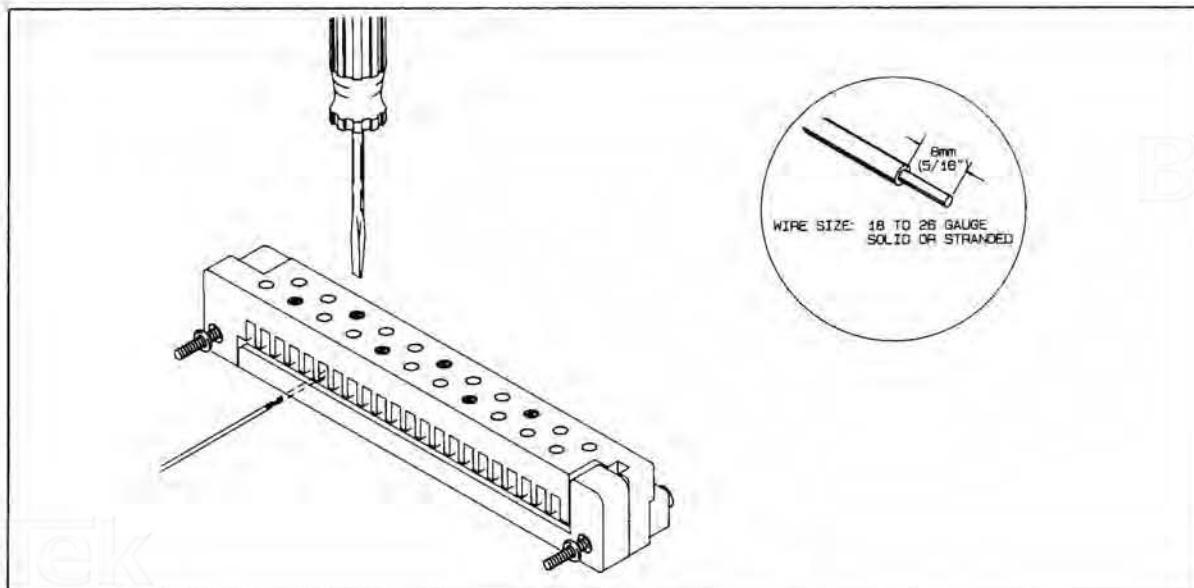

Figure 2-14. Wire Connection
- Loosen the appropriate retaining screw, insert the stripped end of the wire into the slot, and retighten the retaining screw (Figure 2-14).